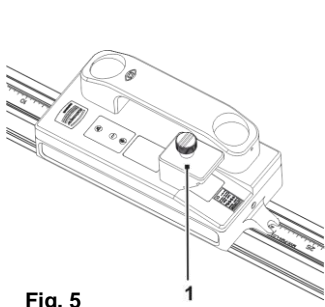

Fig. 5
- Place the mirror attachment (1, Fig. 5) on the two pins on the upper side of the FM4-LO and tighten the knurled knob.